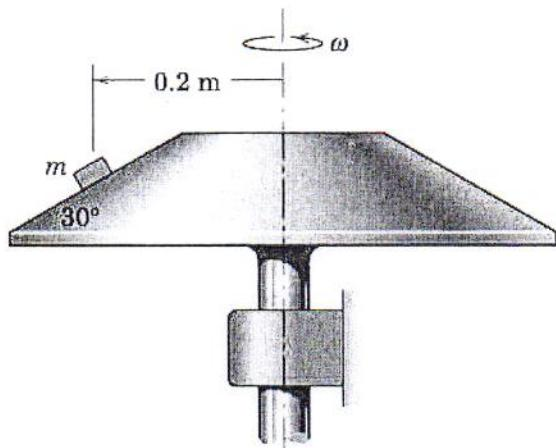

Fig. Q7
7. The small object of mass  $m$  is placed on the rotating conical surface at the radius shown in Fig. Q7. If the coefficient of static friction between the object and the rotating surface is 0.8, calculate the maximum angular velocity  $\omega$  of the cone about the vertical axis for which the object will not slip. Assume very gradual angular velocity changes.